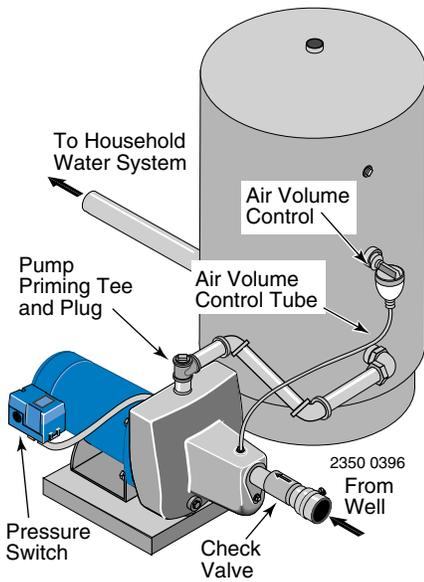

Figure 5: Standard Tank Connections
STANDARD TANK CONNECTION (Figure 5)
- Step 1. Install one tee in the pump discharge port (see Figure 5).
- Step 3. Remove the 1/8" NPT pipe plug from the pump Air Volume Control (AVC) port (see Figure 5). Run tubing from the pump's AVC port (see Figure 5) to the port on the AVC mounted on the tank. See instructions provided with tank and AVC for details. AVC port location will vary, depending on your pump model (see exploded view, Page 11).